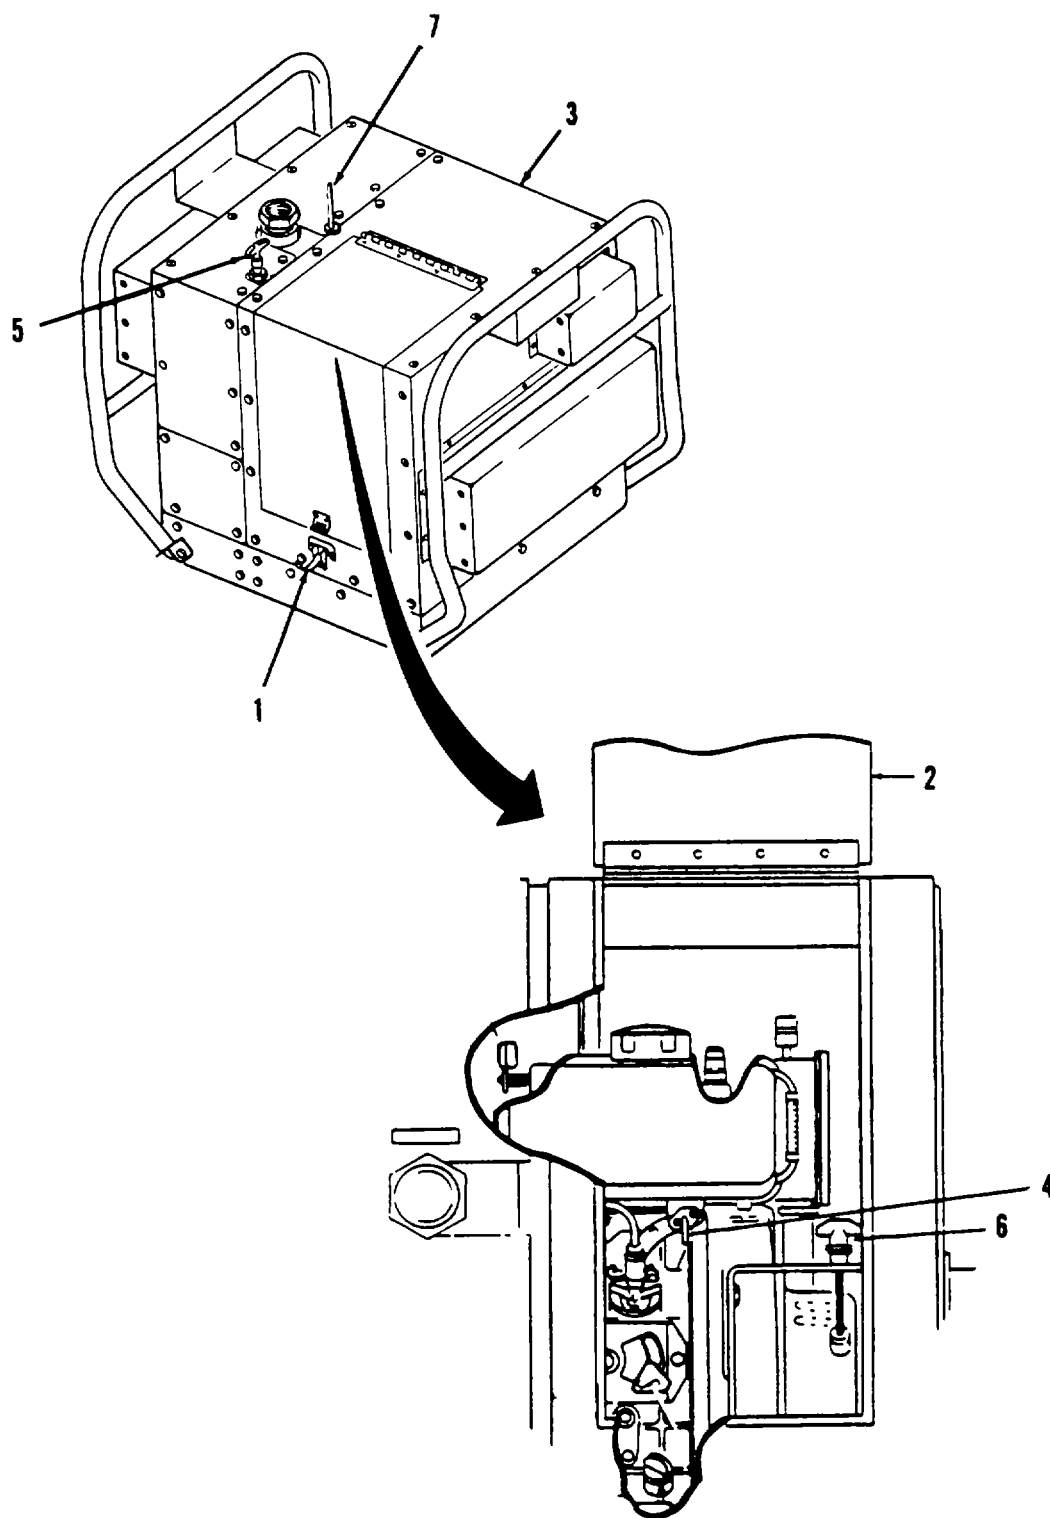

Figure 2-5. Starting and Operating the DED Pump Assembly.
a. Starting. After insuring that the DED pump assembly has been properly connected as indicated in para. 2-7, the DED pump assembly may be started by performing the following steps. (Refer to Figure 2-5.)
(8) After 1 to 3 minutes, the centrifugal pump will start pumping water.
(9) Close access panel (2) and engage latch (1).
b. Adjusting Speed. After engine has been started, the engine speed must be adjusted to set the DED pump assembly to pump the required rate of water. To adjust the engine speed, perform the following steps. (Refer to Figure 2-5.)
(1) Rotate throttle control handle (5) 1/4 turn counterclockwise and either pull out the throttle control to increase speed or push in throttle control handle to decrease speed until desired pumping rate is achieved.
(2) Rotate throttle control handle (5) 1/4 turn clockwise to lock handle when the desired speed and pumping rate are achieved.
c. Stopping. When the pumping operation is complete, the DED pump assembly must be shutdown by stopping the engine. To shutdown the DED pump assembly, perform the following steps. (Refer to Figure 2-5.)